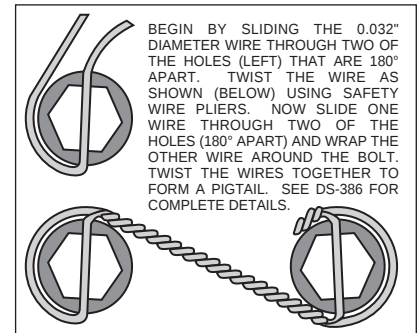

Figure 4. Safety Wire Diagram
- Install bolts (2) through caliper mounting bracket (1) into steering arm, finger tighten only. After you are positive of the bracket (1) alignment, remove the mounting bolts (2) one at a time and Apply red *Loctite*® 271 to bolt threads, then reinstall. Torque bolts (2) to 30 ft-lb. **NOTE:** Be sure the heads of the bracket (1) insert nuts are facing outward toward the wheel.
- Install wheel studs (3) into the hub (4). Torque to 77 ft-lb. **NOTE:** There are two (2) five lug patterns in the hub (5 x 4.50 and 5 x 4.75). Make sure of the correct hole pattern for the correct wheel application before installing studs into hub.
- Pack the large inner bearing cone (5) with high temperature disc brake bearing grease (available from your local auto parts store) and install into the backside of the hub (4). Install the grease seal (6) by pressing into the backside of the hub (4).
- Attach rotor adapter plate (7) to rotor (8) using bolts (9). Torque bolts (9) to 180 in-lb. Safety wire bolts (9) using standard 0.032 inch diameter stainless steel safety wire as shown in Figure 4. Please refer to Wilwood's data sheet DS-386 (available at www.wilwood.com/pdf/ds386.pdf) for complete safety wire installation instructions. **NOTE:** Dished side of adapter plate (7) should face hub (4). The machined tab side of the iron rotor (8) should face the adapter plate (7).
- Mount the adapter/rotor assembly (7 and 8) to the hub (4) using bolts (10). Torque bolts (10) to 22 ft-lb. Safety wire bolts (10).
- Pack the small outer bearing cone (11) with high temperature disc brake bearing grease and install into front of hub (4). Slide the hub/rotor assembly (4 and 8) with outer bearing cone (11) onto the spindle. Secure using stock spindle washer, adjusting nut and nut locking device. Adjust bearings per Original Equipment Manufacturer (OEM) specifications.